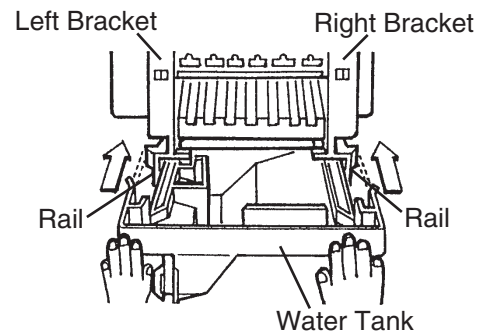

Fig. 37
14) Slide in the water tank along the rails at the bottom of the left and right brackets until it locks into place. See Fig. 37.